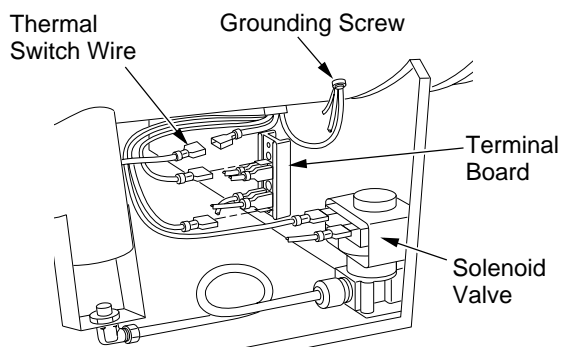

Figure 6 - Location of Motor Wires
21. Connect motor wires as follows (see Figure 6, page 6):